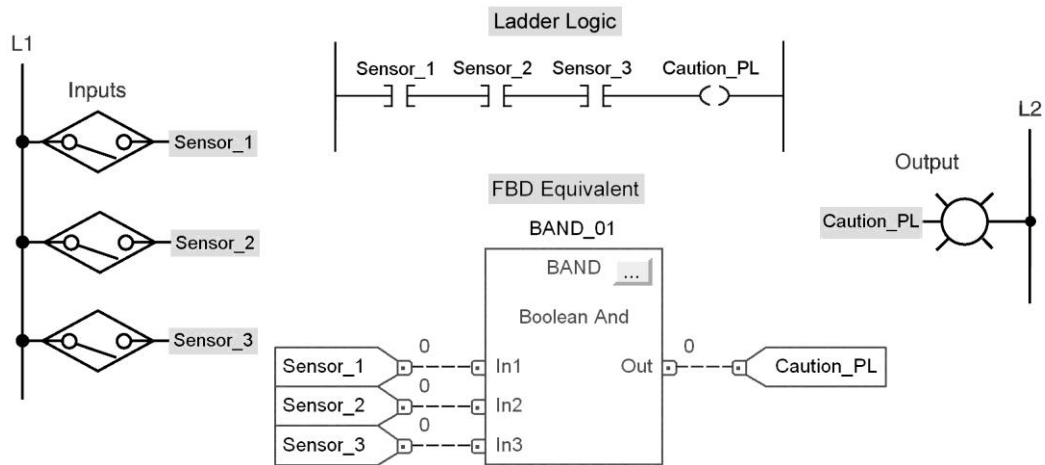

Figure 15-59 AND logic program for assignment 1.
1) The programs of Figure 15-59 show the ladder logic and the FBD equivalent for a three-input AND logic. Prepare a function block program that will simulate its operation. Utilize field devices found on your ControlLogix installation. Enter the program into the controller, and verify its operation.